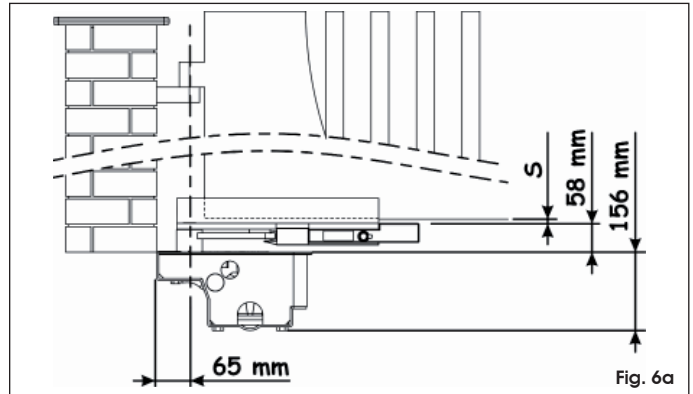

Fig. 6a
- min. clearance between bottom edge of gate and ground as in fig. 6a (where 's' = thickness of guide bracket);
2. Place the foundation box in the hole, respecting the dimensions given in Fig. 6a - 6b - 6c. The center of the pivot on the foundation box must be perfectly aligned with the leaf's axis of swing (Fig. 6a - 6b - 6c).